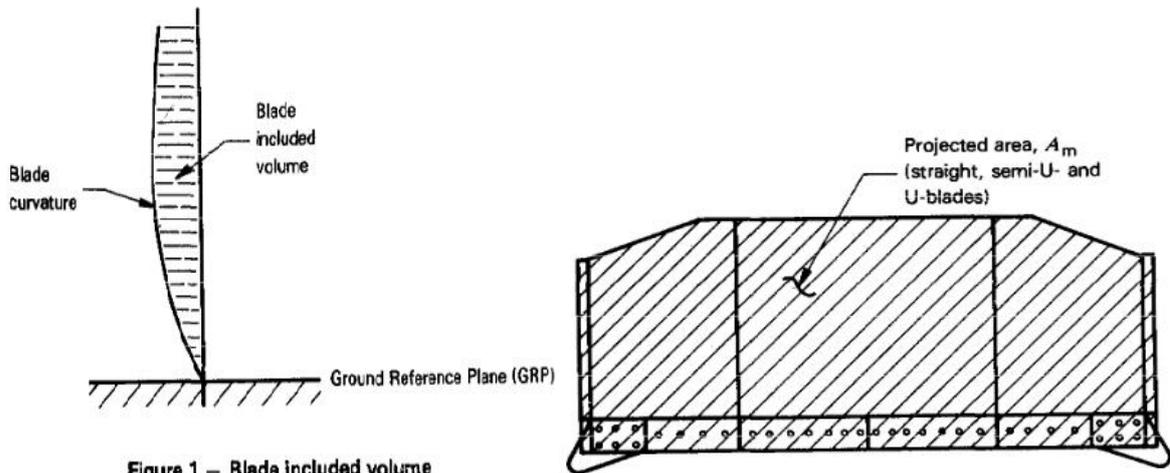

Figure 1 – Blade included volume
**1.2** This International Standard applies to all types of dozers that are mounted on all tractors defined in ISO 6747. This includes straight, angling, semi-U-, and U-blade configurations. It is assumed that the blade face is flat and vertical; the blade included volume is not considered (see figure 1).